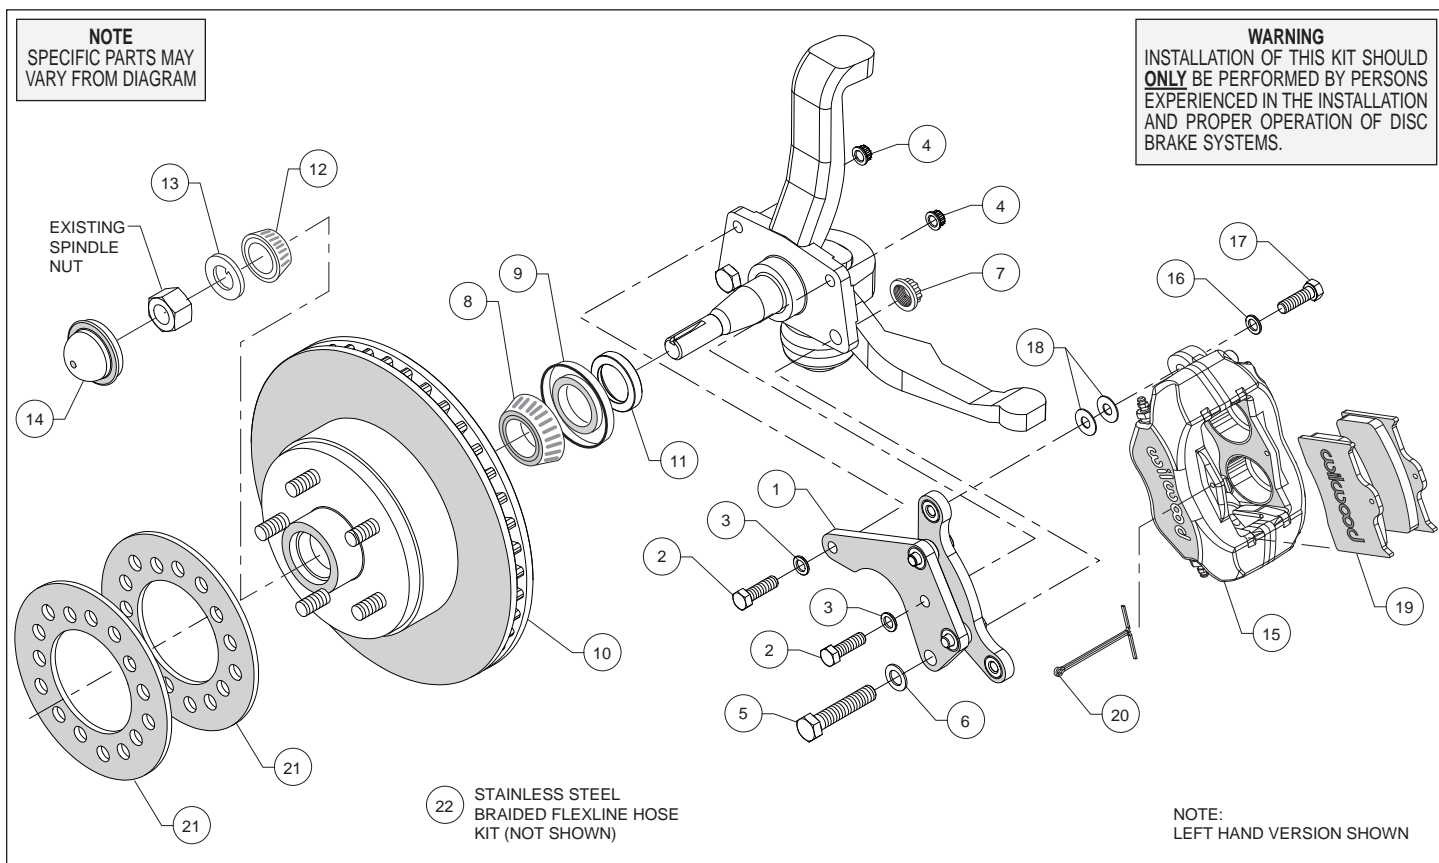
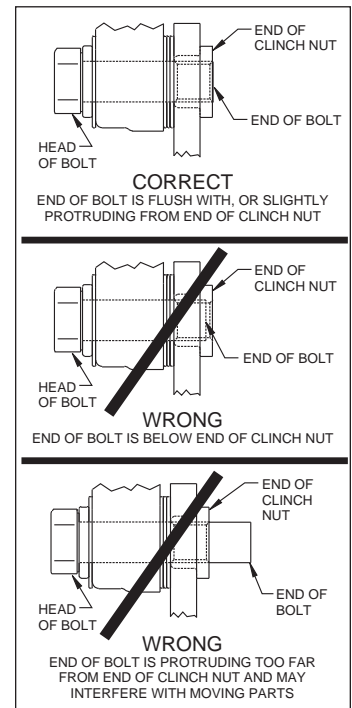

Figure 1. Typical Installation Configuration
Figure 3. Clinch Nut Engagement Diagram
**Assembly Instructions** (numbers in parenthesis refer to the parts list, on the preceding page and Figure 1): **CAUTION:** All mounting bolts must fully engage clinch nuts. Be sure to check that all bolts are either flush or protruding through flanged side of clinch nut after shimming, Figure 3.
- Orient the caliper mount bracket (1) as shown in Figure 1 and Photo 1, and install using bolts (2 and 5), washers (3 and 6), and secure using nuts (4 and 7) as shown in Figure 1. Ensure that the flanged heads of the clinch nuts in the bracket are facing outboard, Photo 1. Temporarily tighten the mounting bolts. **NOTE:** The bracket must fit squarely against the mount bosses on the upright. Inspect for interference from casting irregularities, machining ridges, burrs, etc. Torque lock nuts (4) to 30 ft-lb. and locknut (7) to 65 ft-lb.
- Pack the small outer bearing cone (12) with high temperature disc brake bearing grease and install into hub (10). Slide the hub/rotor onto the spindle. Secure using spindle washer (13), Photo 4, and OEM spindle nut. Bearing adjustment: Tighten the nut while turning the hub. When there is a slight bind on the bearings, they are seated correctly. Back the nut off about 1/6 to 1/4 of a turn, or sufficiently to allow .001" to .007" end play. **WARNING:** Failure to back off adjusting nut could cause bearing to run hot and be damaged, which could cause the wheel to lock or come off. Install new cotter pin (not supplied).
- Press the dust cap (14) into the hub (10).
- NOTE:** Please reference the caution statement at the beginning of the assembly instructions. Mount the caliper (15) onto the caliper mounting bracket (1) using bolts (17) and washers (16), as shown in Figure 1. Initially place two .035" thick shims (18) on each bolt between the caliper and the bracket, Photo 5. Temporarily tighten the mounting bolts and view the rotor (10) through the top opening of the caliper. The rotor should be centered in the caliper, Photo 6. If not, adjust by adding or subtracting shims (18) between the bracket and the caliper. Always use the same amount of shims on each of the two mounting bolts. **NOTE:** The end of each bolt must be flush with or slightly protruding from the head of the clinch nut, as shown in Figure 3. If necessary place spare shims between washer (16) and caliper mounting ear to achieve the proper clinch nut engagement. Once the caliper alignment and clinch nut engagement are correct, remove the bolts one at a time, apply red *Loctite*® 271 to bolt threads, and torque to 40 ft-lb.